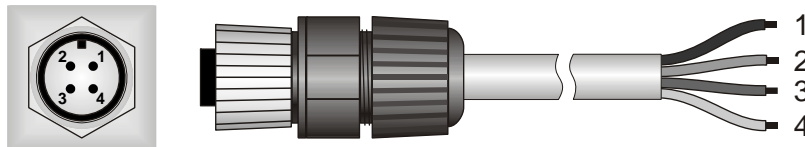

Fig. 4
- The optional cable, with the connector at one end, is in UV-resistant PTFE, it is equipped with 3 wires plus shield, the correspondence between cable colors and connector pins is (figure 4):